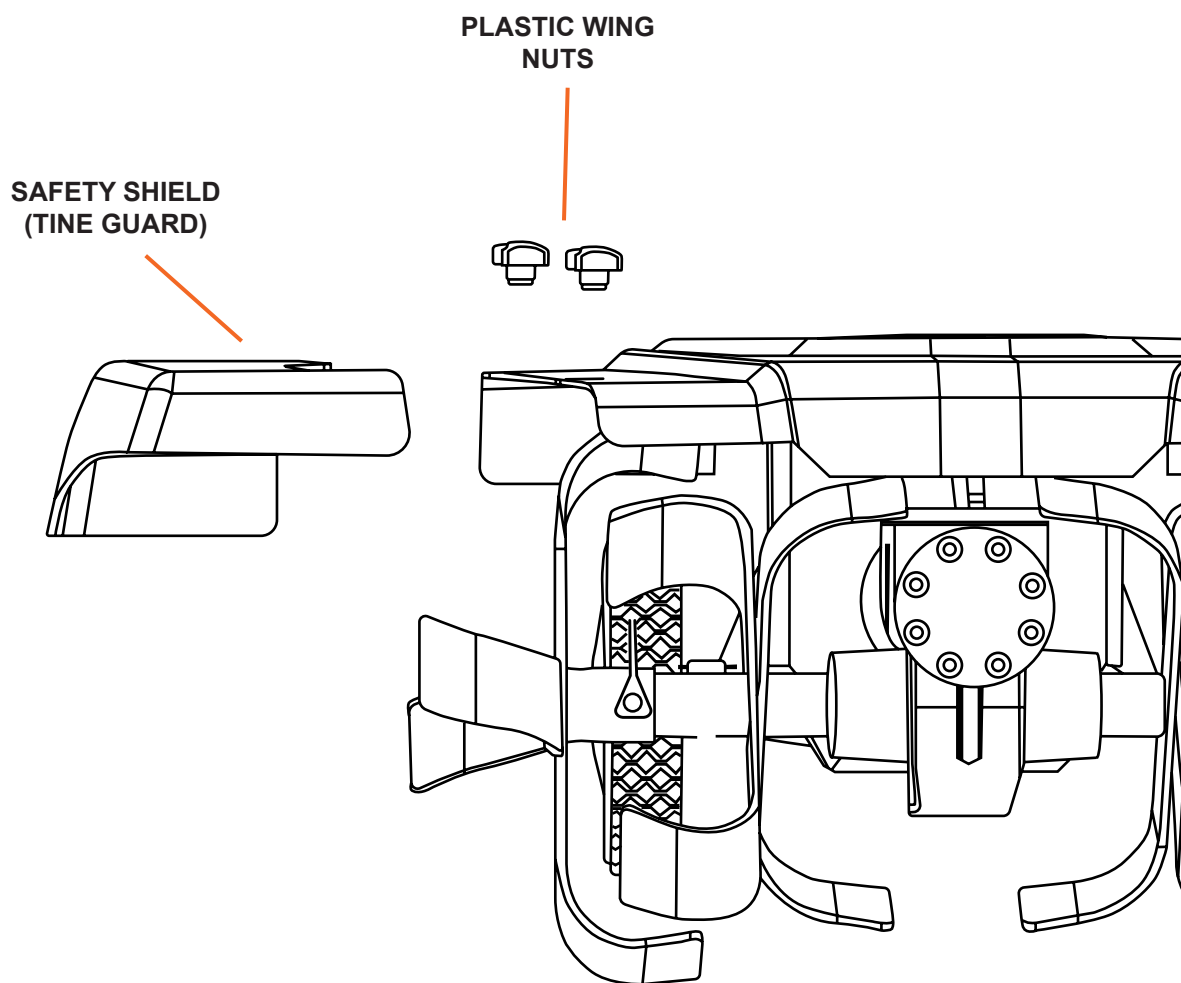

Figure 4
2. Install the guards on their respective sides, using the plastic winged nuts (see Figure 4), ensuring that they are safely and securely fastened to the machine.